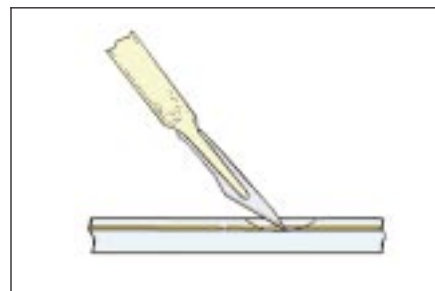

Figure 1 Laminate removal.
3. Remove the laminate around the damaged conductor by working on the thinnest side of the flexible conductor. Laminate can be removed by using a light abrasive such as a pumice-impregnated wheel or rotary bristle brush. Removal may also be accomplished by cutting with a scalpel or dental tool. (See Figure 1.)